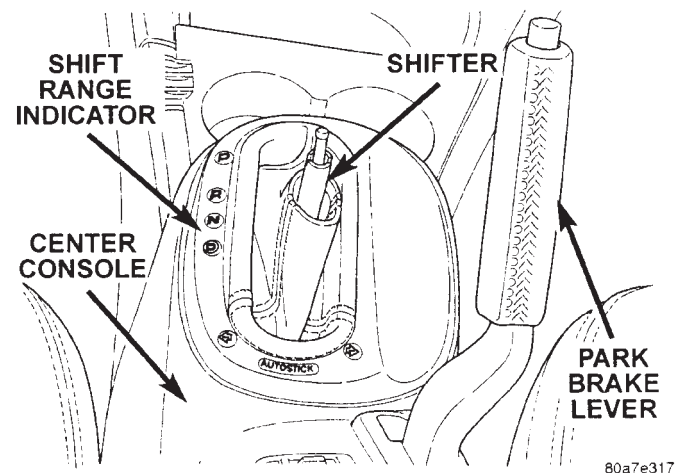

**Fig. 131 Shift Range Indicator**
(2) Remove the shift range indicator (Fig. 131) from the center console. The shift range indicator is attached to the center console using retaining clips. It is removed by carefully prying it off the center console. The shift range indicator covers the 2 attaching screws for the center console.
(24) Install the transmission range indicator (Fig. 131) in the center console.
(25) Install the shift knob on the shifter. Install and securely tighten the shift knob retaining screw.
(26) Fold the carpeting back into position on the rear floor of the vehicle.
(27) Install the 2 clips attaching the carpeting to the cross car beam.
(28) Install the 2 wiring harness routing clips on the cross car beam.
(29) Install the quarter trim panels. Refer to Group 23 Body in this service manual for the required installation procedure.
(30) Install both door sill plate scuff moldings, by snapping them onto the door sills.
(31) Install lower rear seat cushion. Be sure lower seat cushion is fully installed in retainers on floor pan of vehicle.